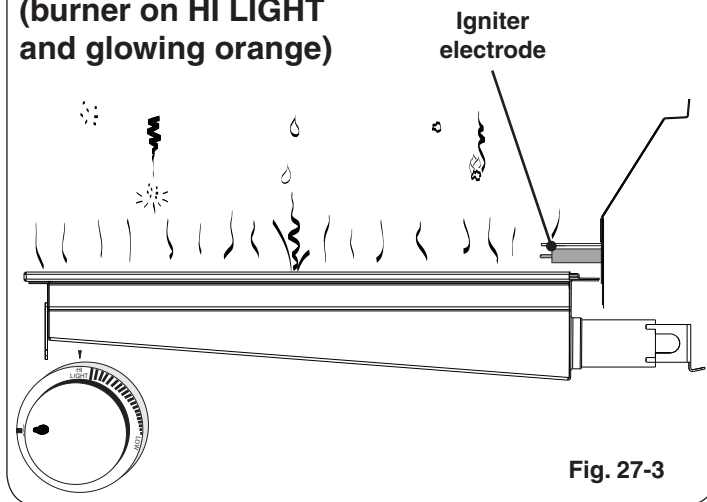

Fig. 27-3
- **DO NOT place food on the cooking grid until the infrared burner glows orange (Fig. 27-3).** Drippings are heated and evaporate instead of sticking to and impairing burner function.